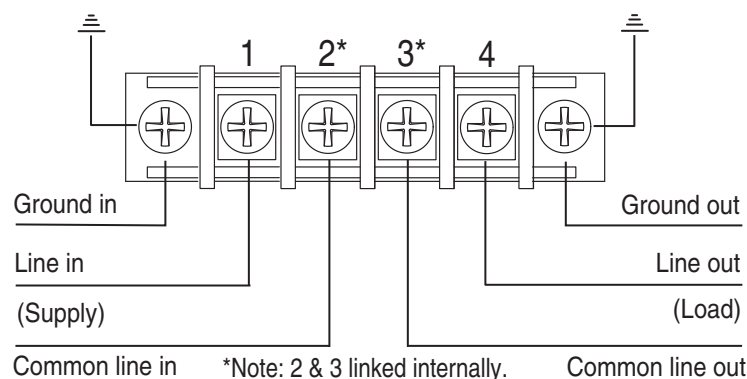

Fig 7
6. Connect unit as shown in Fig 7 using 2mm² (14AWG), VDC S series & 5mm² (10AWG), VDC L series copper panel wire.